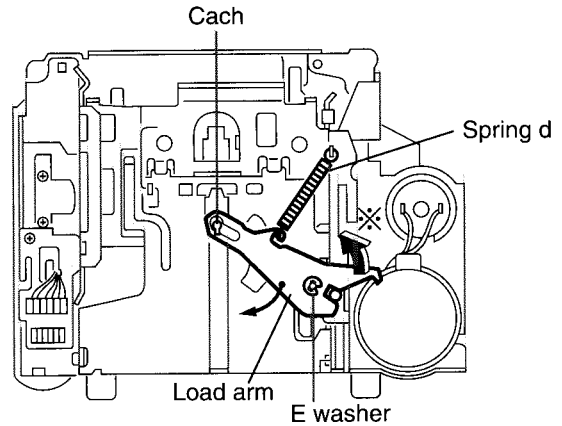

Fig.5
**■ Removing the load arm (See Fig.5)**